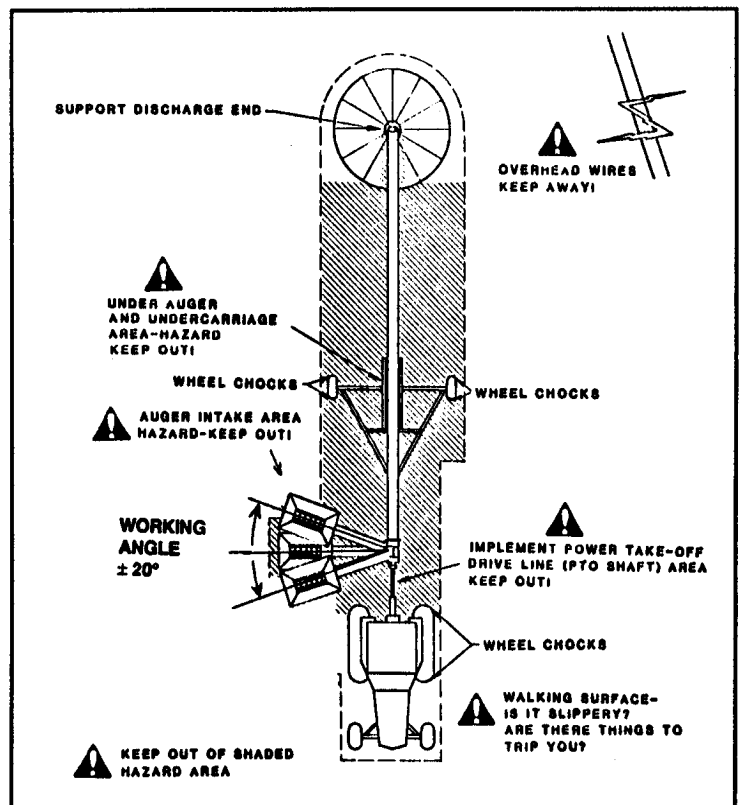

Fig. 13 SWING AWAY HOPPER POSITION
- Always locate the swing hopper within 20 degrees of a right angle to the main tube for optimum performance. **See Fig. 13.**